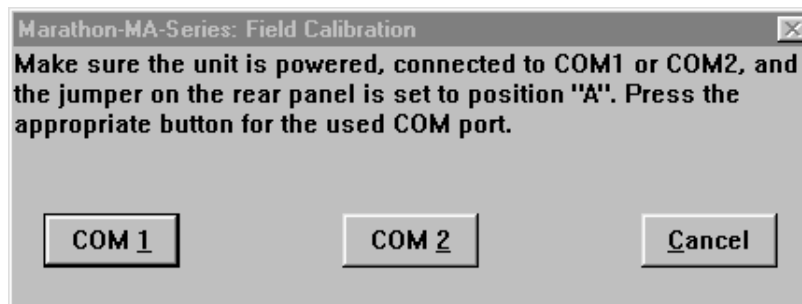
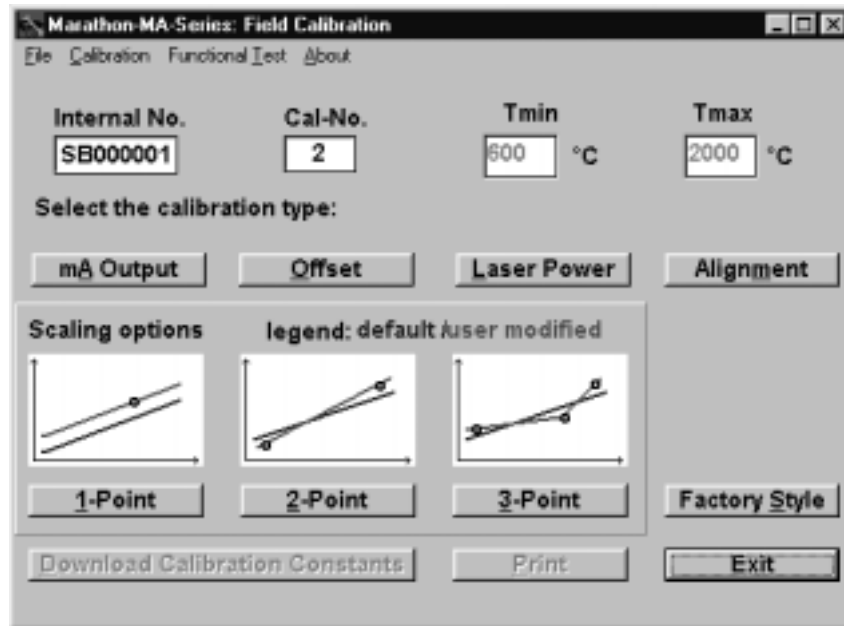

Figure D-3: Dialog Box
Figure D-4: The Main Screen
3. Before the main screen appears, a dialog box like Figure D-3 displays. Click on the appropriate button then the main screen displays (Figure D-4).
All necessary calibration functions are performed from this main screen. The main screen's buttons, as shown in Figure D-4, are duplicated in the Calibration menu. (Download Calibration Constants and Print are duplicated in the File menu.) The following sections cover the functions of the main screen buttons. The file menu functions are explained later in this section.